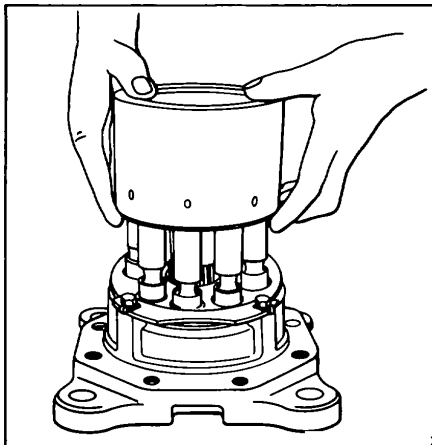

Figure 219.
17. If cylinder block was completely disassembled, proceed with the block as follows. Install the inner spring retainer (54), block spring (41) and outer spring retainer (42) in cylinder block (40). Place block (40) in an arbor press and compress block spring (41). Install snap ring (43). Gradually release the spring (41) until it seats against snap ring (43).
18. Spread a thin film of oil over the inner surface of the nine piston bores. Stand the pistons (55) in an erect position and carefully lower the block assembly (40) over them being sure to return the used pistons to their respective bores. Do not force the block over the pistons. A slight rotary motion of the block assembly will aid in positioning the pistons in the cylinder bores. See Fig. 219.